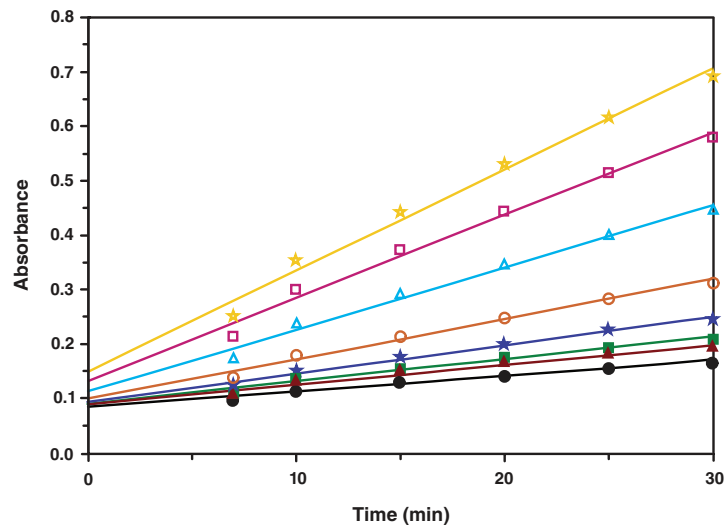

Figure 4. Plot of absorbance versus time for each standard
1. Plot the average absorbance values of each standard and sample as a function of time and determine the slope for each curve (see Figure 4). This is called i-slope.